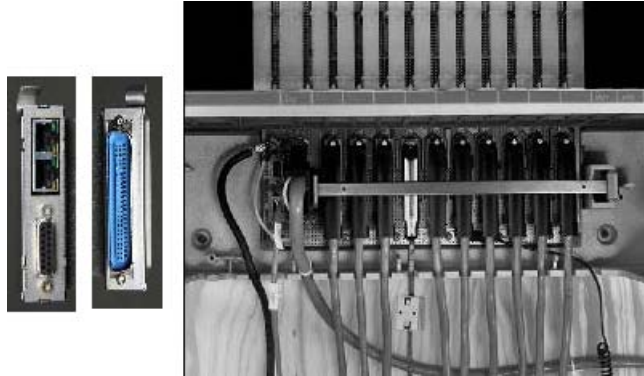

Figure 53: Cabinet
- Connect the MGC DECT Clock Reference Cable (NTDW67AAE5) to 15-pin DSUB connector on the Breakout Adapter. Figure 53: Cabinet on page 222 shows the cabinet.